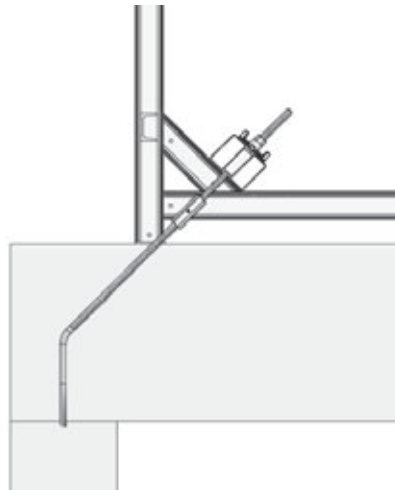

Fig. 9.2
- Anchor loop in turned configuration if support frame sits on top of a slab, see fig. 9.2 for an example. It needs to be discussed with the stress analyst if an additional rebar is required.